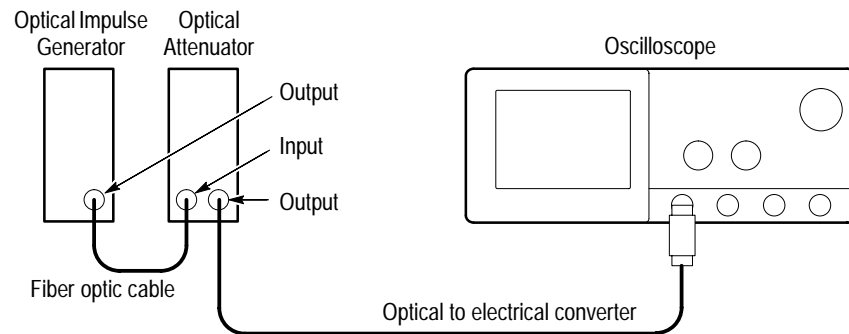

Figure 1–43: Reference-receiver performance-verification set up
- Connect the optical probe to CH 1 of the oscilloscope under test (see Figure 1–43).